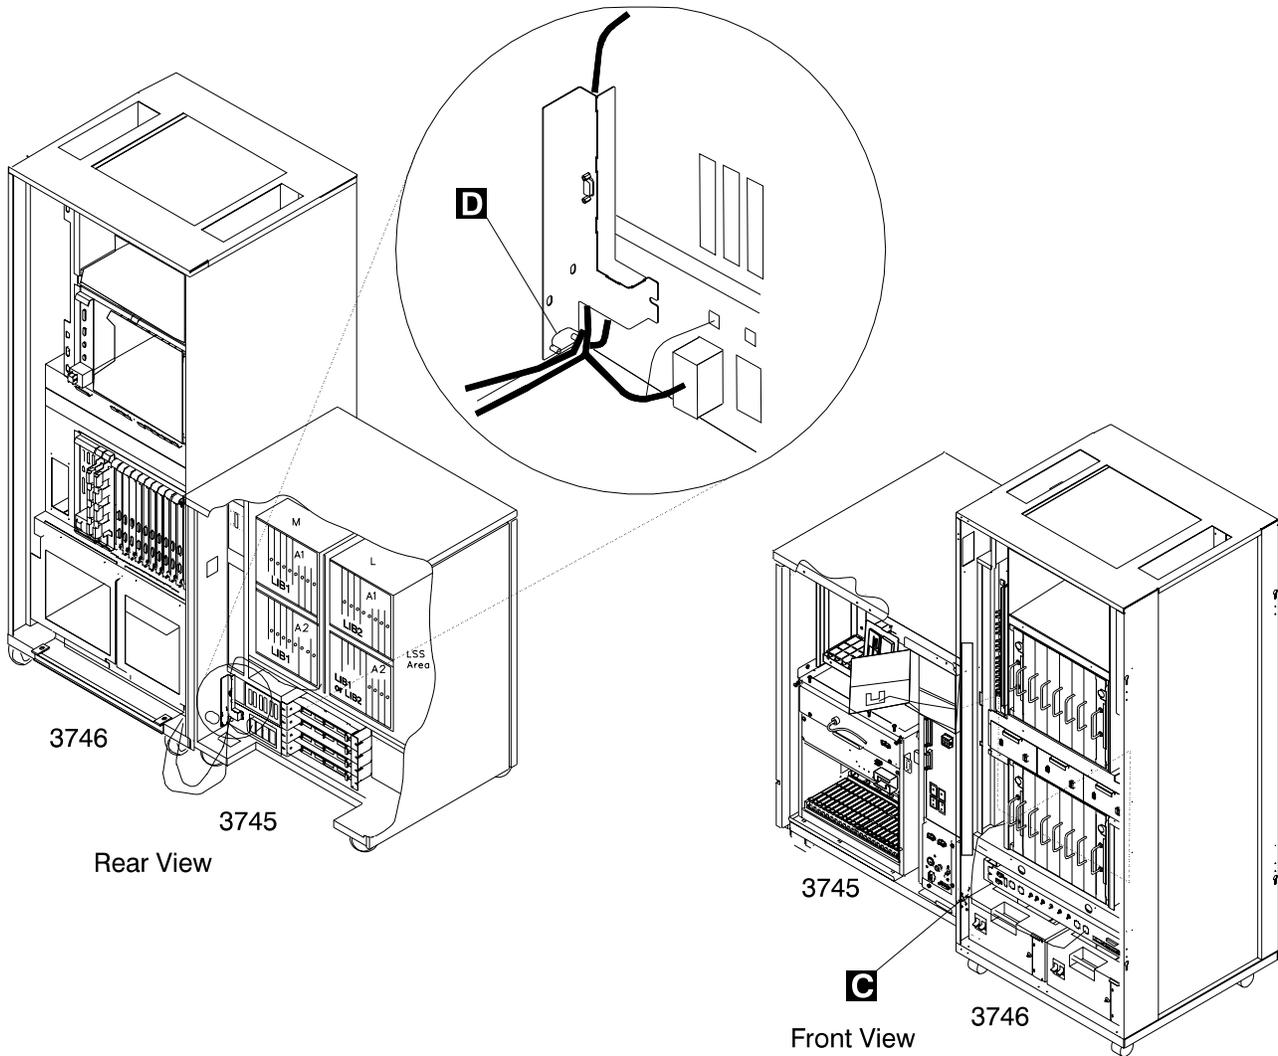

Figure 0-1. 3745/3746-900 Power Control Cable Routing
- The 3746-900 is grounded to the 3745 via the power control cable (see Figure 0-1 on page xx).